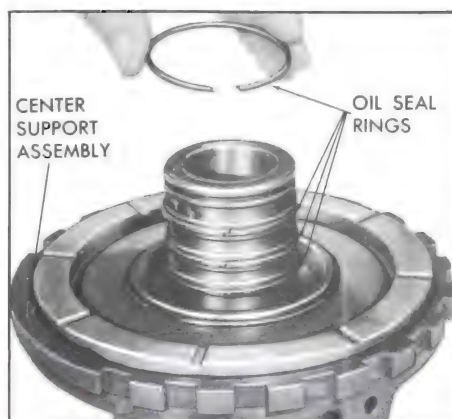

Figure 5-658
7. Install four (4) hook type oil rings. See Figure 5-658.